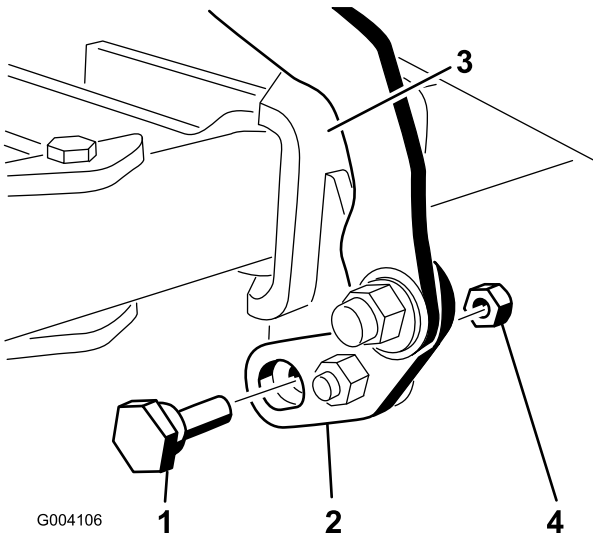
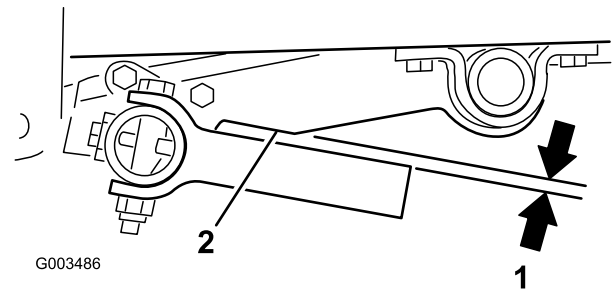

Figure 16
Figure 20
6. Install the eccentric bolt through the bottom of the pivot tab and pivot bracket and secure it using a locknut (5/16 inch) (Figure 16).
2. Rotate the eccentric bolt either direction until the toolbar tines are parallel to the notch in the lift arm (Figure 16 and Figure 20).